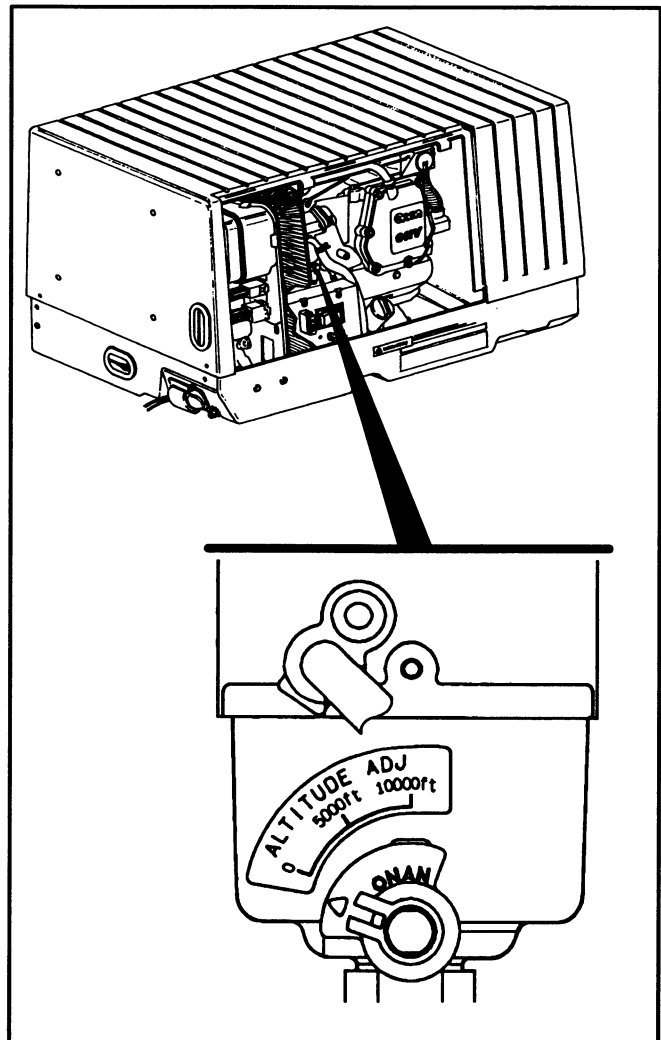

FIGURE 8. ALTITUDE ADJUST KNOB (GASOLINE MODELS ONLY)
2. Set the altitude adjust knob (Figure 8) for your altitude (gasoline models only).
5. Set the altitude adjust knob (Figure 8) for your altitude (gasoline models only).